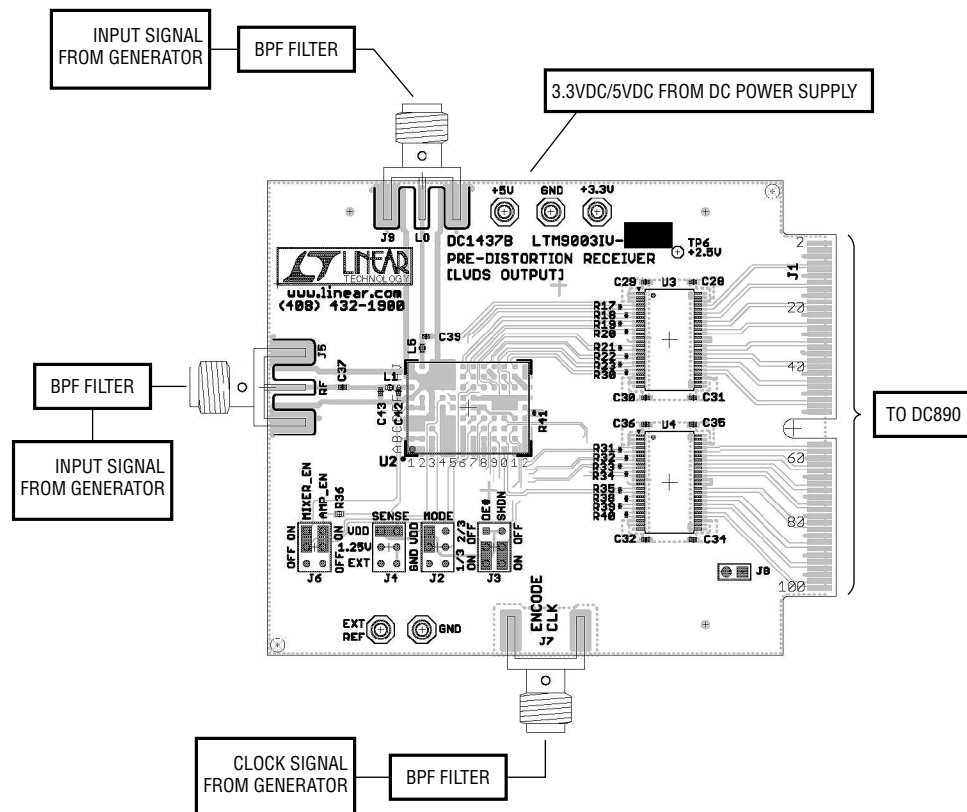

Figure 1. DC1437B Connection Diagram
Validating the performance of the LTM9003 is simple with DC1437, and requires only two input sources, a clock source, a computer, and a lab power supply. Note the RF and LO inputs are matched for 1.4GHz to 2.2GHz, and 0.9GHz to 3GHz, respectively. Refer to the schematic in Figure 4 for other matching configurations to accommodate other frequency ranges. Refer to Figure 1 for proper board evaluation equipment setup and follow the procedure below:
5. Connect the power supply as shown in Figure 1. There are onboard low noise voltage regulators that provide the supply voltage for the DC1437. Note that the LTM9003-AA requires a 3.3V supply voltage for the mixer, whereas the LTM9003-AB requires 5V. As such, only the DC1437B-AB board requires 5V as well as 3.3V input; the DC1437B-AA board can be powered from 3.3V only. The entire board and all components share a common ground. The power supply should still be a low noise lab power supply capable of supplying at least 1A.